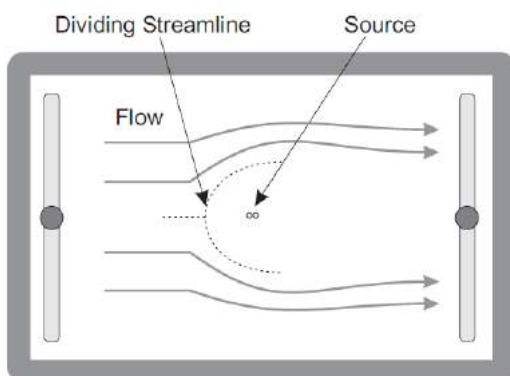

Figure 5: Source in a uniform stream
4. You should see a streamline pattern with flow around the dividing streamline as shown in Figure 5.